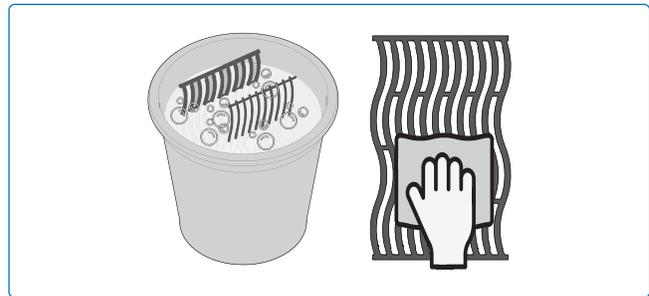

Fig. 18
2. Rinse with hot water and dry thoroughly with a soft cloth to prevent rust (**Fig 18**).